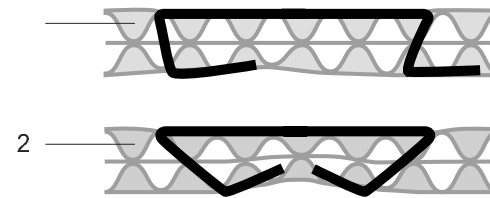

Fig. 9
Each plier is tested carefully before delivery. By rough treatment during operation the anvil therefore might need to be adjusted. Uncorrect clinching may then occur (Fig. 9/1).
- Make a test-stapling in a piece of carton. If the anvil is correctly adjusted the clinch should be like in (Fig. 9/2).